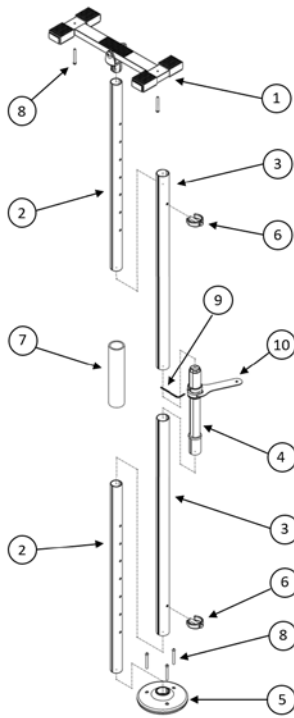

FIGURE 1
1. Take all parts out of the box and lay them on a flat surface near the place the product is to be installed as shown in Figure 1.